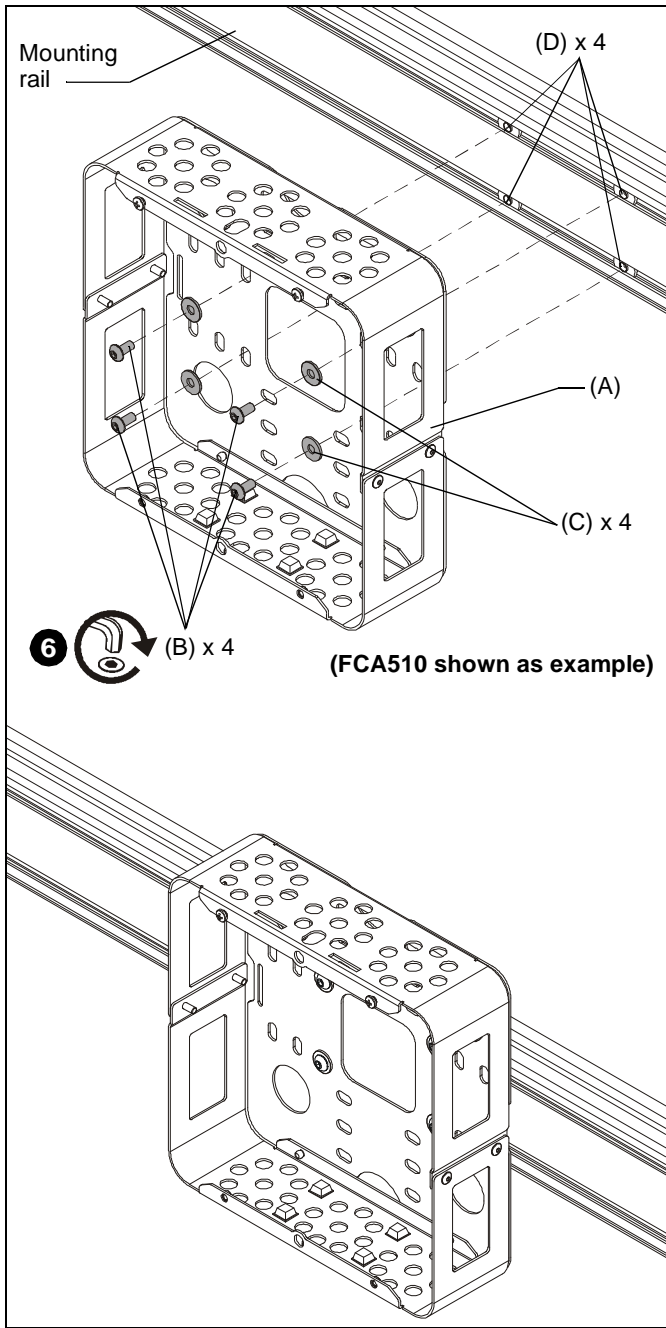

Figure 5
- Attach FCA510/FCA515 (A) to T-slot nuts (D) using four 5/16-18 x 1/2" button head screws (B) and four 5/16" flat washers (C) into installed T-slot nuts (D). (See Figure 5)